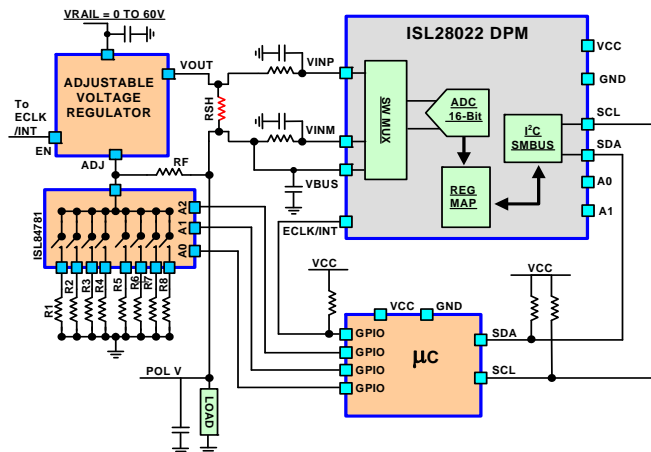

FIGURE 50. ADJUSTABLE POINT OF LOAD MONITORING DESIGN IDEA
Many applications require unique voltages to optimize a circuit's potential. Figure 50 is a microcontroller selectable point of load (POL) circuit. The circuit is very similar to the POL monitor discussed previously. The general purpose input output bits (GPIO) of the microcontroller controls a multiplexer which connects a gain setting resistor to the adjust (ADJ) pin of the regulator. The feedback resistance (RF), the multiplexer switch resistance and the value of the gain setting resistor (R1 to R8) determine the regulated output voltage (POL V) to the load. Equation 23 is a generic formula to determine the regulated POLV.